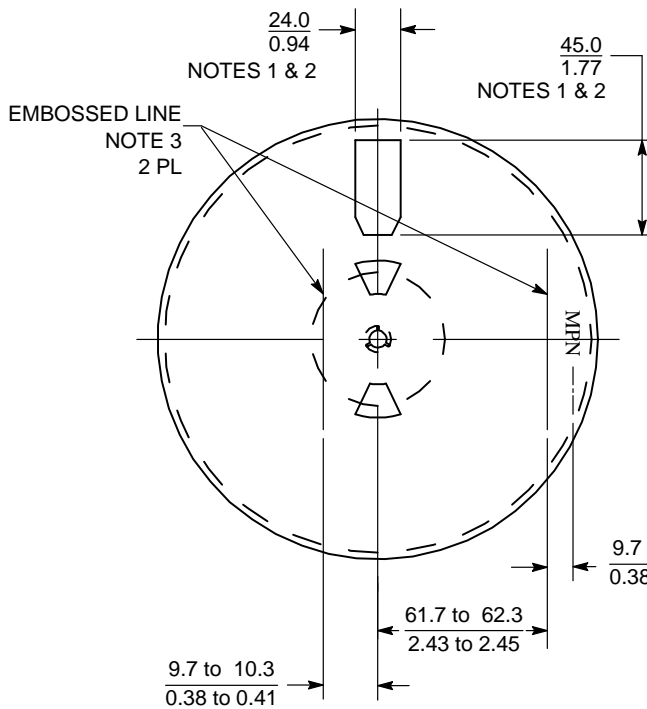

Figure 47. Front View of 178 mm (7.0 in) Reel
- If there are any flange openings on the front side of the 178 mm (7.00 in) reel they must be designed in locations so that two of the 41.3 mm (1.65 in) ON Semiconductor barcode labels can be applied parallel to each other as in Figure 47.
- Flange opening on the front and the back of the reel are a supplier option but must meet all of the requirements in Note 1. The preferred size for the 176 mm (7.0 in) reel is shown in Figure 47.
- The embossed lines on the reel are an option. If the lines are used they must be located as in Figure 47 and 48. They must be a minimum 38 mm (1.50 in) long. The thickness is a manufacturer's option and not to be used for inspection criteria.